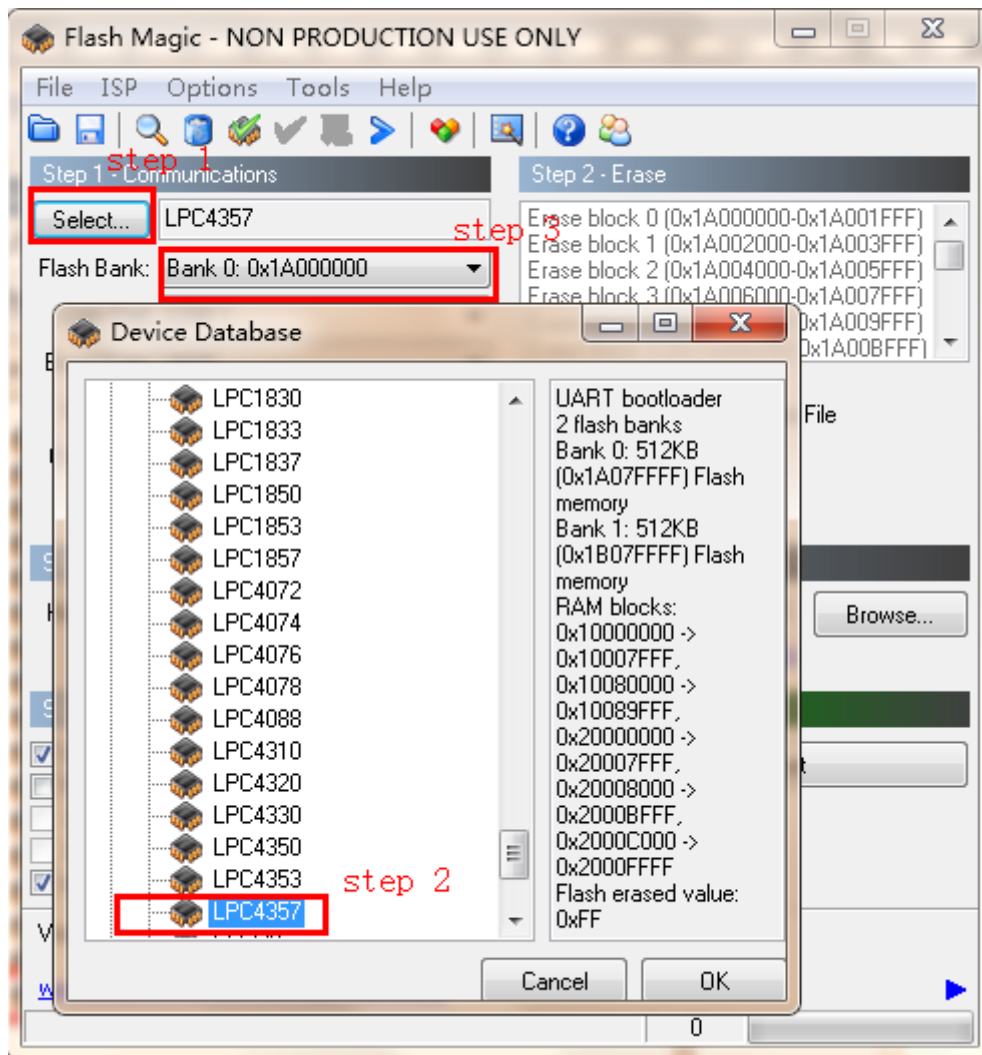

Figure 3-16
(3) Configure development environment and select LPC1857 or LPC4357. Flash Bank chooses Bank 0:0x1A000000. Refer to figure 3-16: